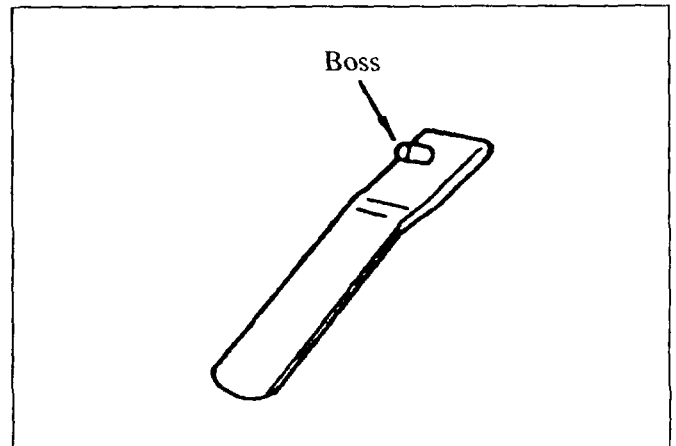

Figure 13: Protector
- Cut the boss off of the protector. **Figure 13.**